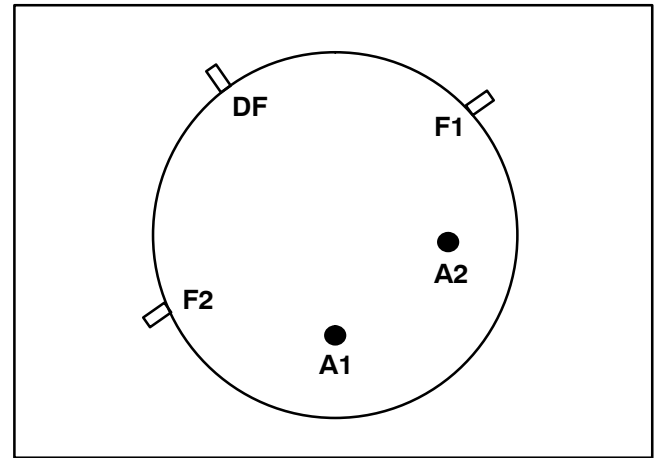

Figure 12
3. Measure resistance between each terminal (Fig. 12) and ground. The meter reading should be infinite.